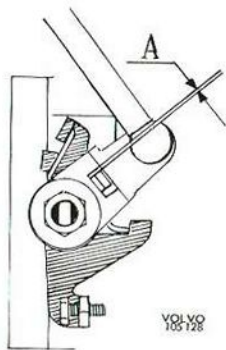

Fig. 2-129. Setting the control
13. Adjust the link rods. With the control against its stop on the manifold bracket, the link rods should be adjusted so that there is a clearance of about 0.1 mm (0.004") between the lever and the flange of the throttle spindle. See Fig. 2-129.